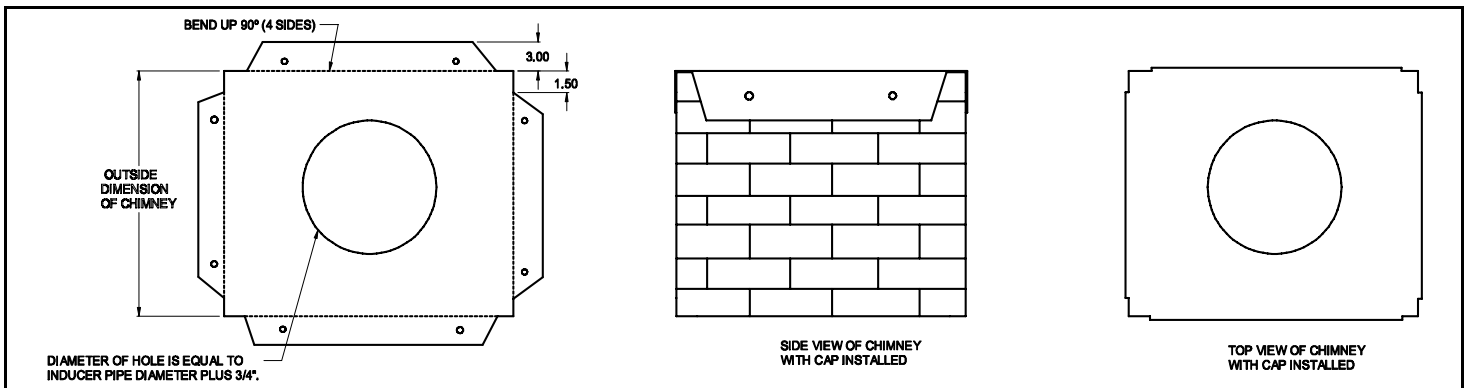
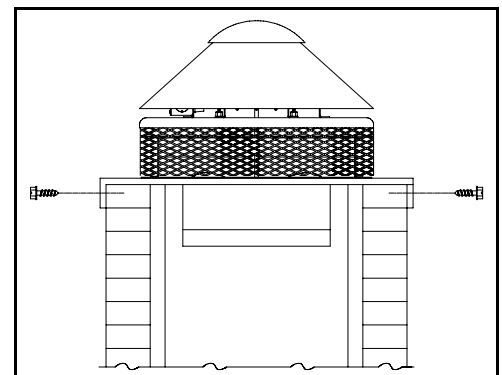

Figure 3
Figure 4
1. Construct a chimney cap that completely covers the outside of the chimney. (See Figure 3)
2. Apply a bead of high temperature silicone adhesive sealant around the hole cut in the center of chimney cap. Fasten chimney cap onto draft inducer base plate with three (3) sheet metal screws.
3. Apply a bead of high temperature silicone adhesive sealant around edge of the masonry top and fasten chimney cap onto chimney. (See Figure 4)